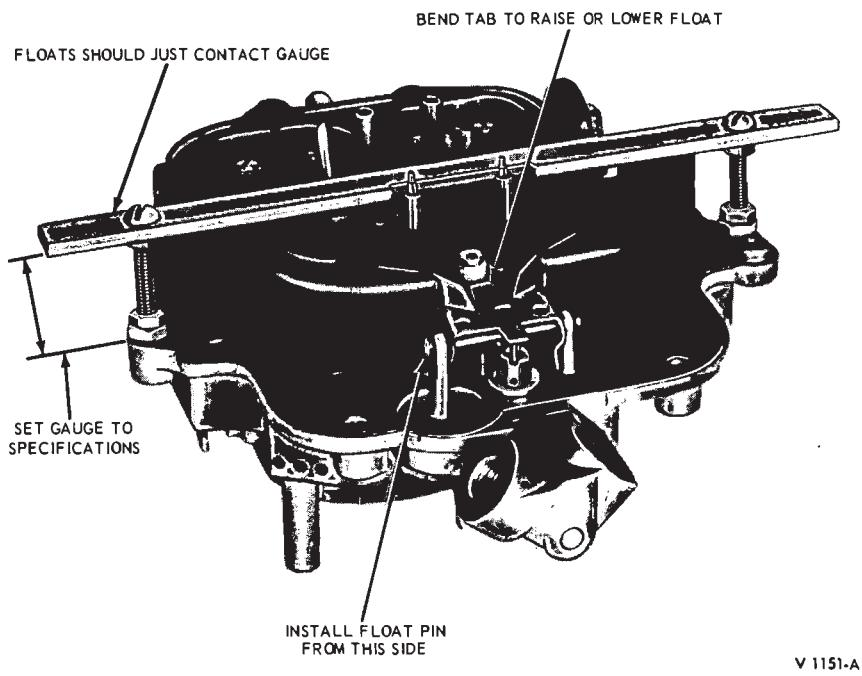
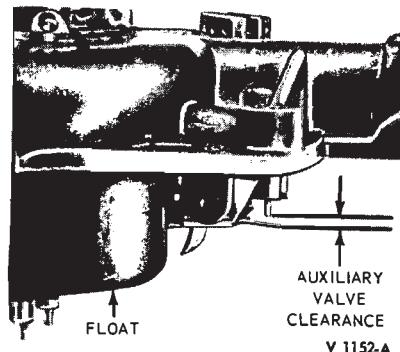

FIG. 7—Float Setting
FIG. 8—Auxiliary (Supplemental) Valve Setting
2. Insert gauge into the air horn outboard holes (Fig. 7).
Check the auxiliary valve clearance (Fig. 8). If it is necessary to adjust the auxiliary valve and float tab to the specified clearance, use the bending tool shown in Fig. 7.